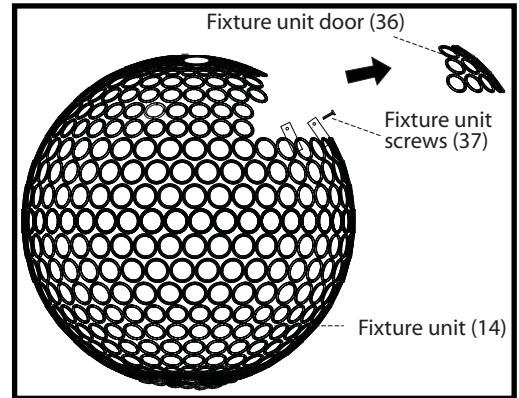

FIG. 1
Step 2: Locate fixture unit door (36), and detach by removing fixture unit screws (37). FIG. 1